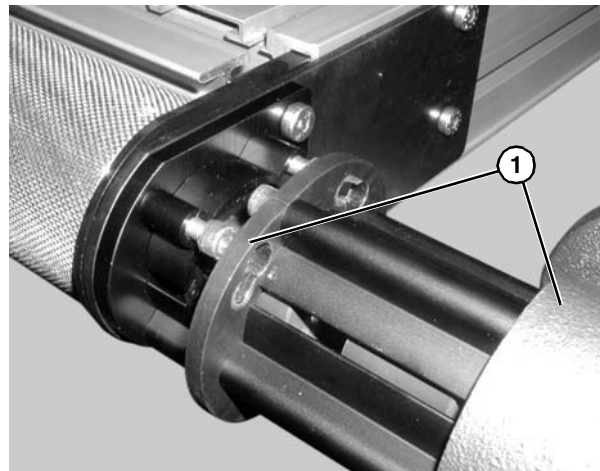

Figure 65
- c. Rotate and remove the gear motor and guard assembly (**Figure 65, item 1**).